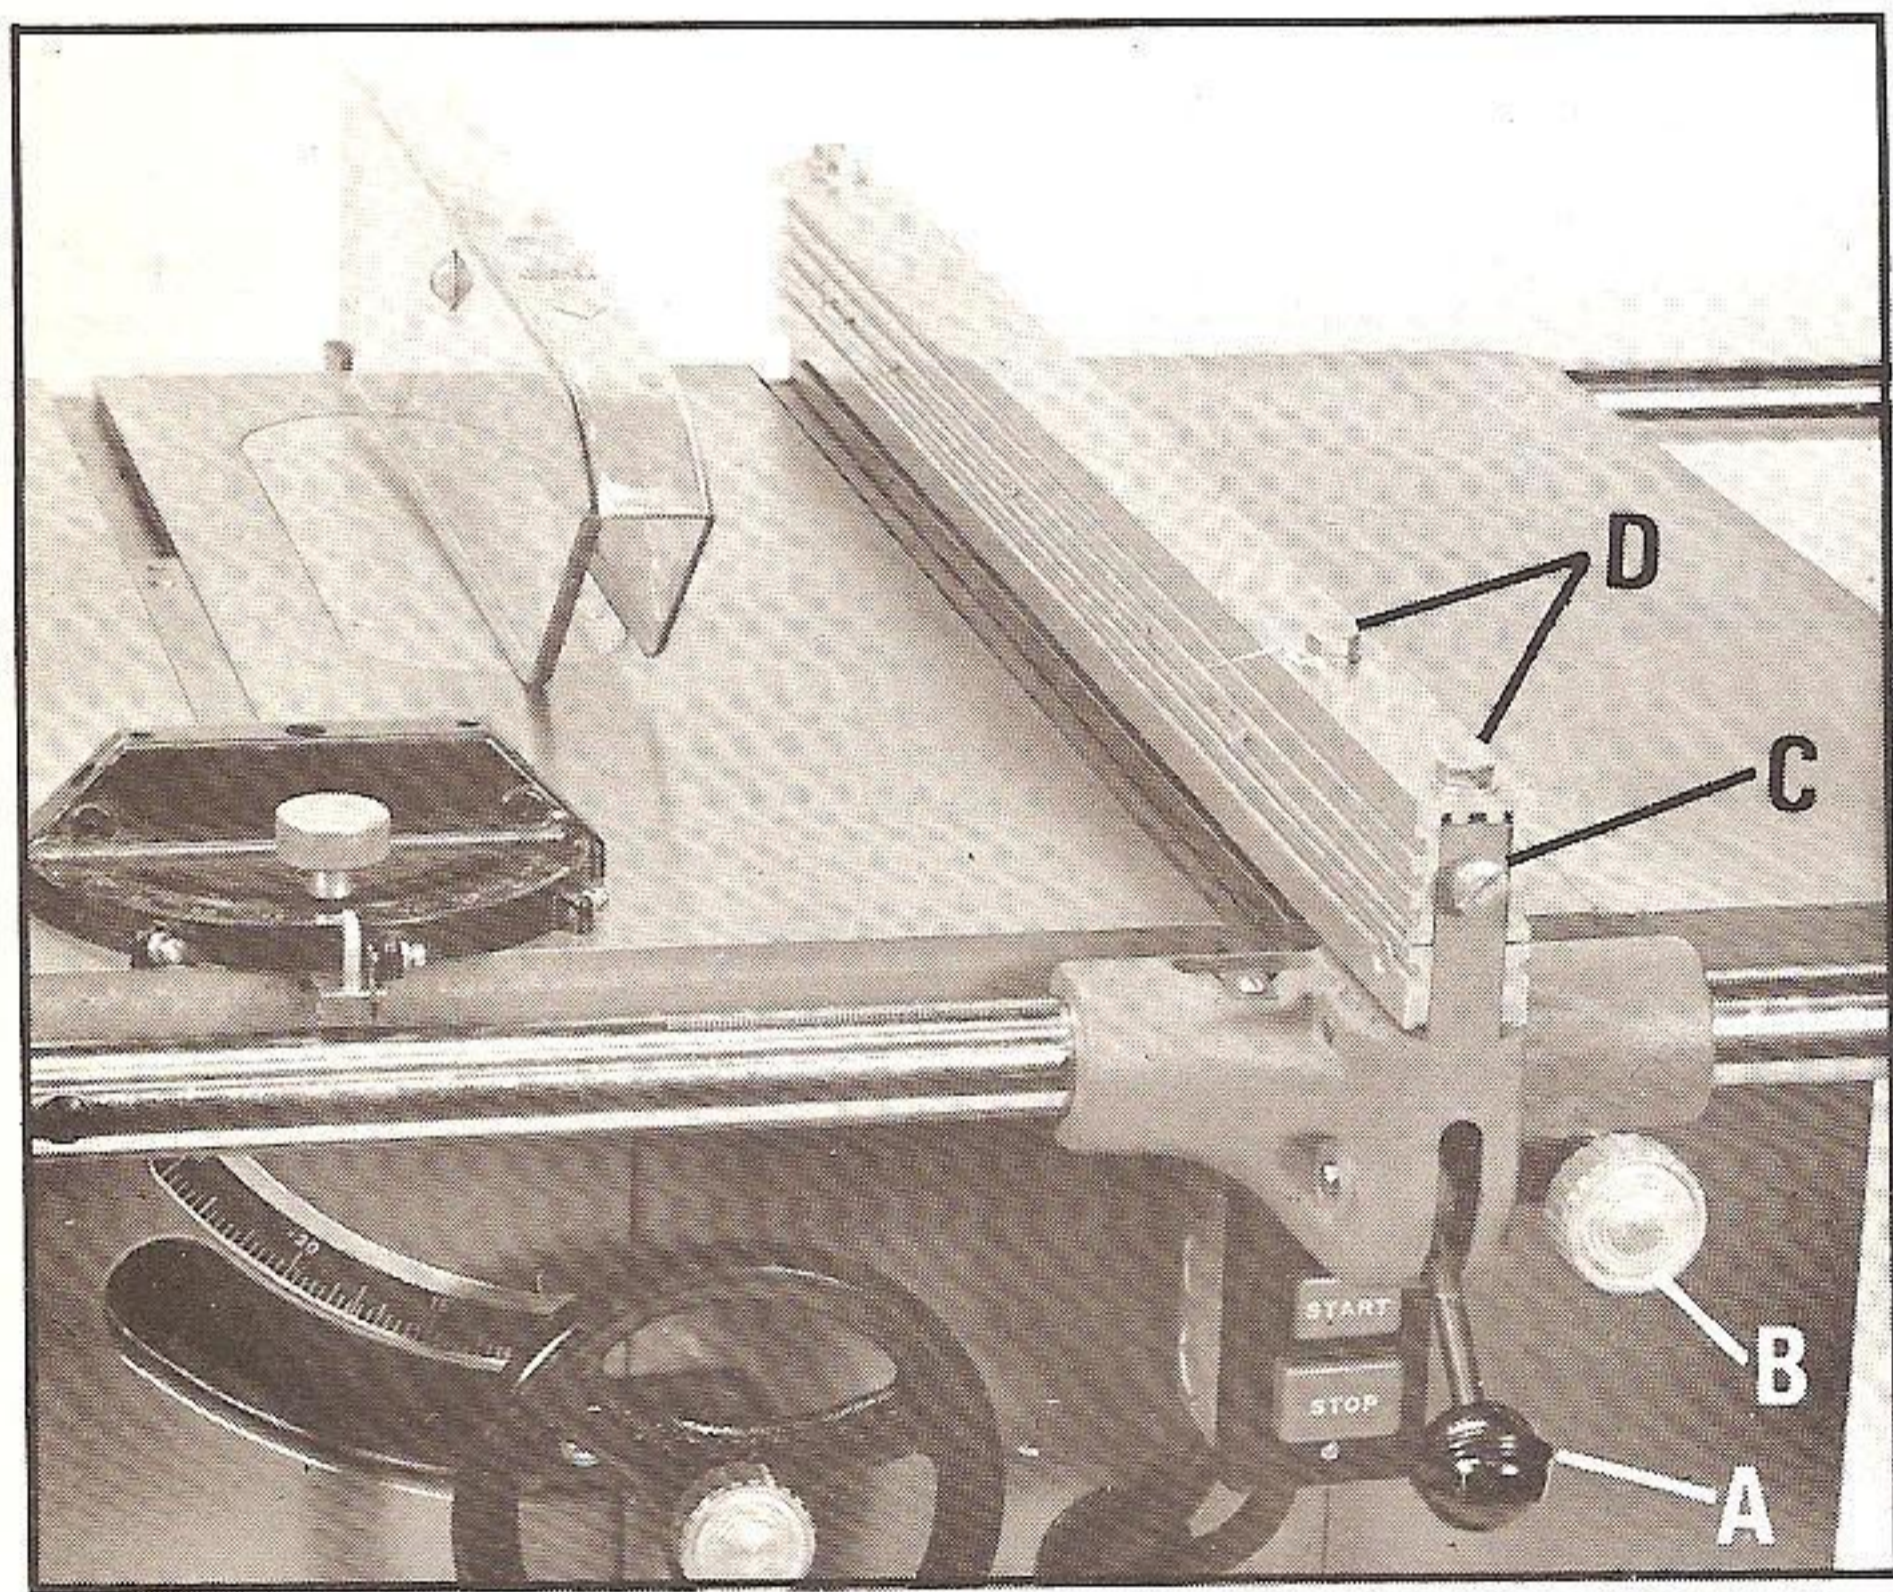

Fig. 24
To move the rip fence, raise the clamp lever (A) Fig. 24, as far as it will go and move the fence to the desired position on the table. For fine movement of the rip fence, raise the clamp lever (A) Fig. 24, as far as it will go and push in and turn the "micro-set" knob (B).
When the clamp lever (A) Fig. 24, is all the way down, clamping action on the front and rear guide rails should be equal. If clamping action on the rear guide rail is more or less than clamping action of front guide rail, an adjustment of the rear clamp hook is made by turning screw (C) Fig. 24. Turning the screw (C) clockwise will increase tension and turning it counter-clockwise will decrease tension. When lowering clamp lever (A) slowly, you will notice clamp action on front guide rail first and as lever is moved downward to its lowest position, clamp action will take place on rear guide rail.
Your machine is shipped from the factory with the table adjusted so the miter gage slots are parallel to the saw blade. The fence, therefore, should be adjusted so it is parallel to the miter gage slots. To check the rip fence, set it at one of the miter gage slots and tighten the clamp lever (A) Fig. 24. If an adjustment is necessary, loosen the two front cap screws (D) Fig. 24, and raise the clamp lever (A). Move the rear end of the fence body to one side or the other until it is parallel with the miter gage slot. Then lock the clamp lever (A), by pushing it down, and tighten the two clamp screws (D).